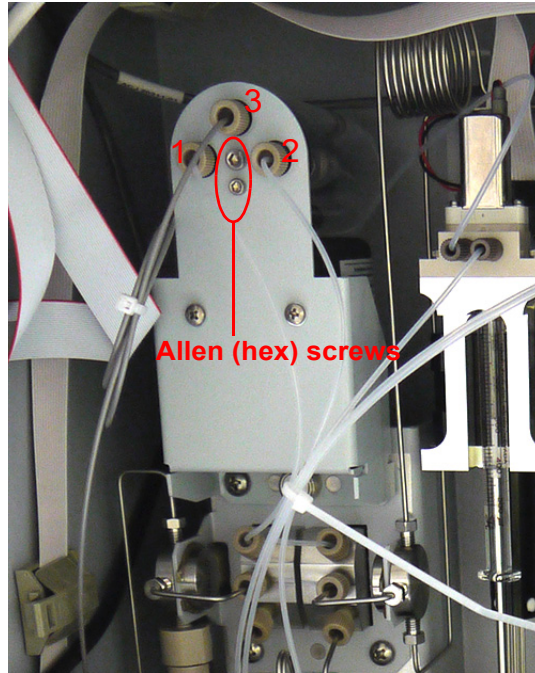

Figure 65: ICR Bracket
5. Remove the three knurled-nut tube connectors (1, 2, and 3 in Figure 65) from the degasser. (Note the orientation of the tubing for the reassembly process.)
6. Loosen both the large and small Allen (hex) screws (Figure 65). Pull the installed degasser away from the ICR bracket and disconnect the tubing from the back of the degasser. Dispose of the removed degasser according to local regulations.
9. Reconnect the three knurled-nut tube connectors (1, 2, and 3 in Figure 65) to the degasser.